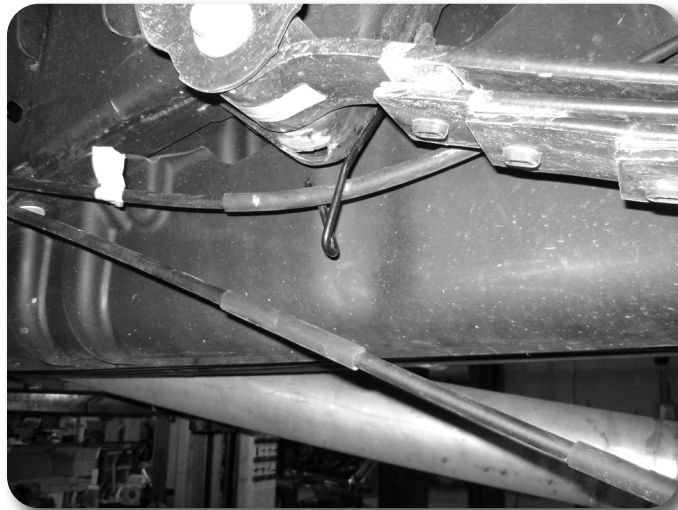

Figure 15
16. Remove the driver's side parking brake cable from the driver's side bracket that was removed from the frame. Move the passenger's side cable into the lower section of the bracket. Reattach the bracket to the frame and tighten hardware securely. Figure 15